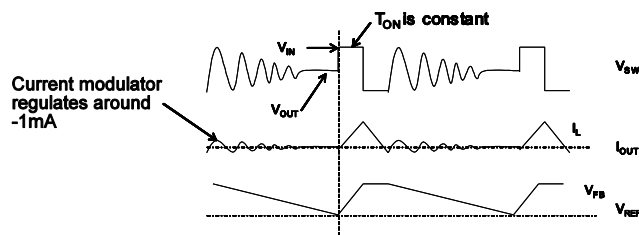

Figure 3: Light-Load Operation
Light-load operation is shown in Figure 3. When  $V_{FB}$  is below  $V_{REF}$ , the HS-FET is turned on for a fixed interval, which is determined by the one-shot on timer. See Equation (1). When the HS-FET is turned off, the LS-FET turns on until the inductor current reaches zero. In DCM operation,  $V_{FB}$  does not reach  $V_{REF}$  when the inductor current is approaching zero. The LS-FET driver enters tri-state (high Z) when the inductor current reaches zero. A current modulator takes over the control of the LS-FET and limits the inductor current to less than -1mA. This causes the output capacitors to discharge slowly to GND through the LS-FET. As a result, the efficiency during a light-load condition is improved greatly. During a light-load condition, the HS-FET is not turned on as frequently as it is during a heavy-load condition (skip mode).